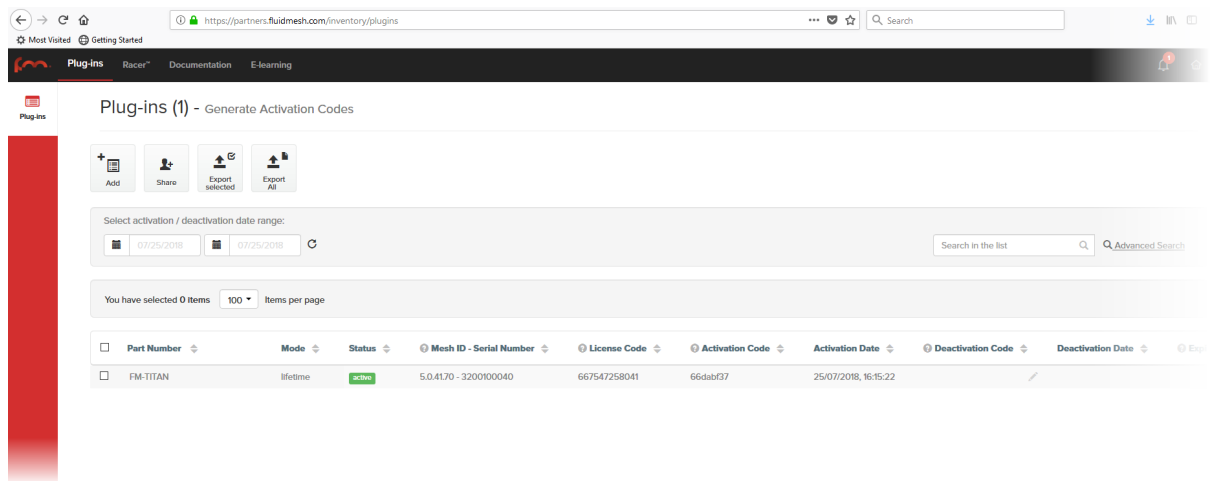

Figure 71. Partner Portal Plug-ins page (License code deactivation)
- The Plug-ins web page will be shown (Figure 71 \(page 153\)).